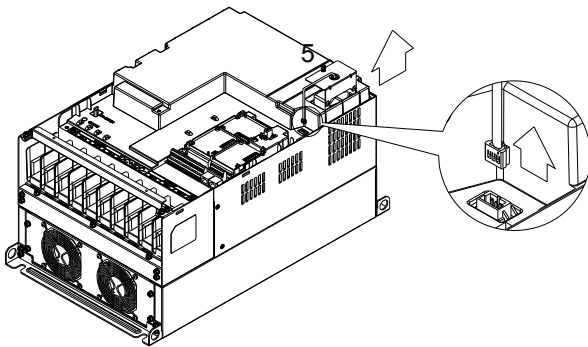

Figure 3
3. (Figure 3) Loosen screw 5 and disconnect the fan power. Screw torque: 10~12kg-cm (8.6~10.4in-lbf).